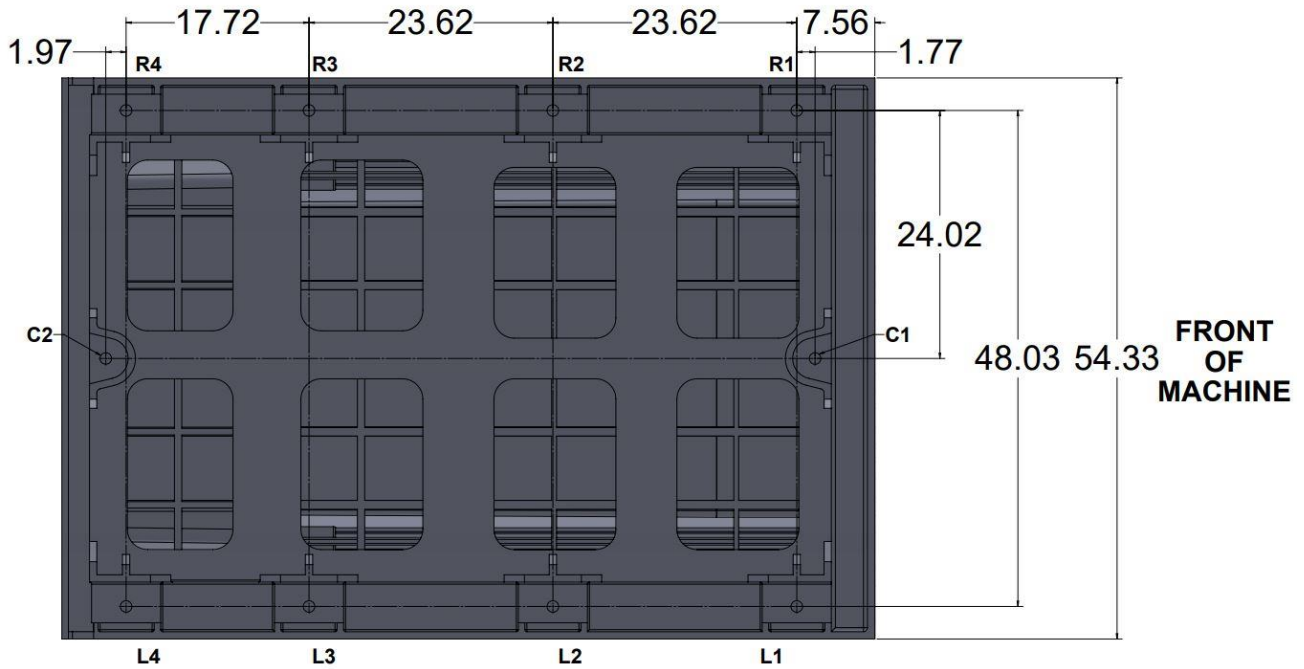

Figure 2.6.1c - TMC12 and TMC14 Leveling Pad Dimensions
5. On the TMC12 and TMC14, set all 10 leveling pads touching the ground. Leveling is achieved by using the seven leveling screws C1, L1, L2, L3, R1, R2, and R3. See figure 2.6.1c. All seven are tightened with about equal torque while adjusting screws C2, L4 and R4 should be left loose left loose with the leveling pads and have no pressure at this time. A 36 mm wrench is required to adjust the leveling bolts